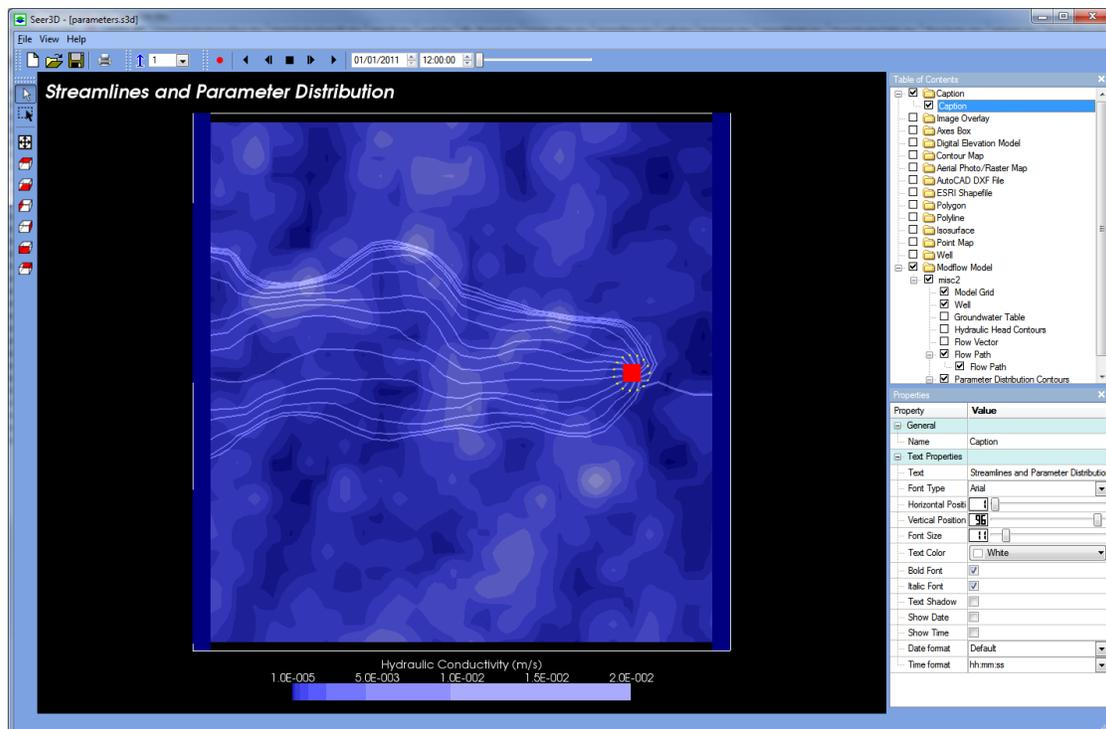

Figure 4.1. A caption on the top-left corner of the Viewport to identify the subject of the image
3. Click on the newly added item to display its Properties window that you can use to adjust the display settings as described in the *Properties* below. Figure 4.1 shows an example of a caption on the top-left corner of the 3D scene.